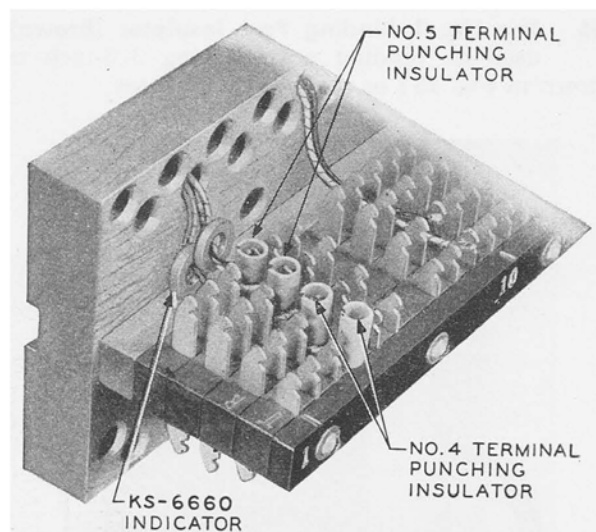

FIG. 11—USE OF NO. 4 AND NO. 5 TERMINAL-PUNCHING INSULATORS AND KS-6660 INDICATOR
9.03 A **KS-6660 Indicator** is a bright red split ring designed to clip over terminal cross-connecting wires (shown in Fig. 11) to identify special circuits.
9.04 **No. 4 and No. 5 Terminal-punching Insulators** are used on soldered-type terminal punchings as shown in Fig. 11. The No. 4 insulator is used on short terminal punchings, and the No. 5 insulator is used on the longer terminal punchings.